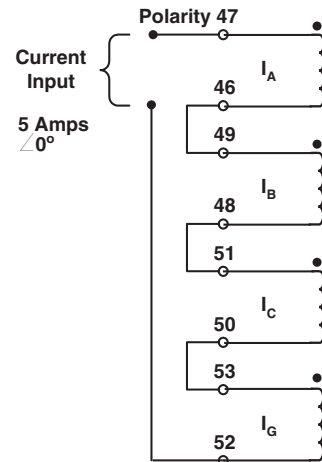

Figure 6-8 Current Calibration Configuration
4. Connect all current inputs in series ($I_A = I_B = I_C = I_N$) and apply 5.00 (± 0.01) Amps $s0^\circ$. See Figure 6-8. For 1 Amp CT models, use 1.0 (± 0.01) Amps $s0^\circ$.
2. Refer to Figure 6-8 and place unit in calibrate mode by configuring the proper dip switches.